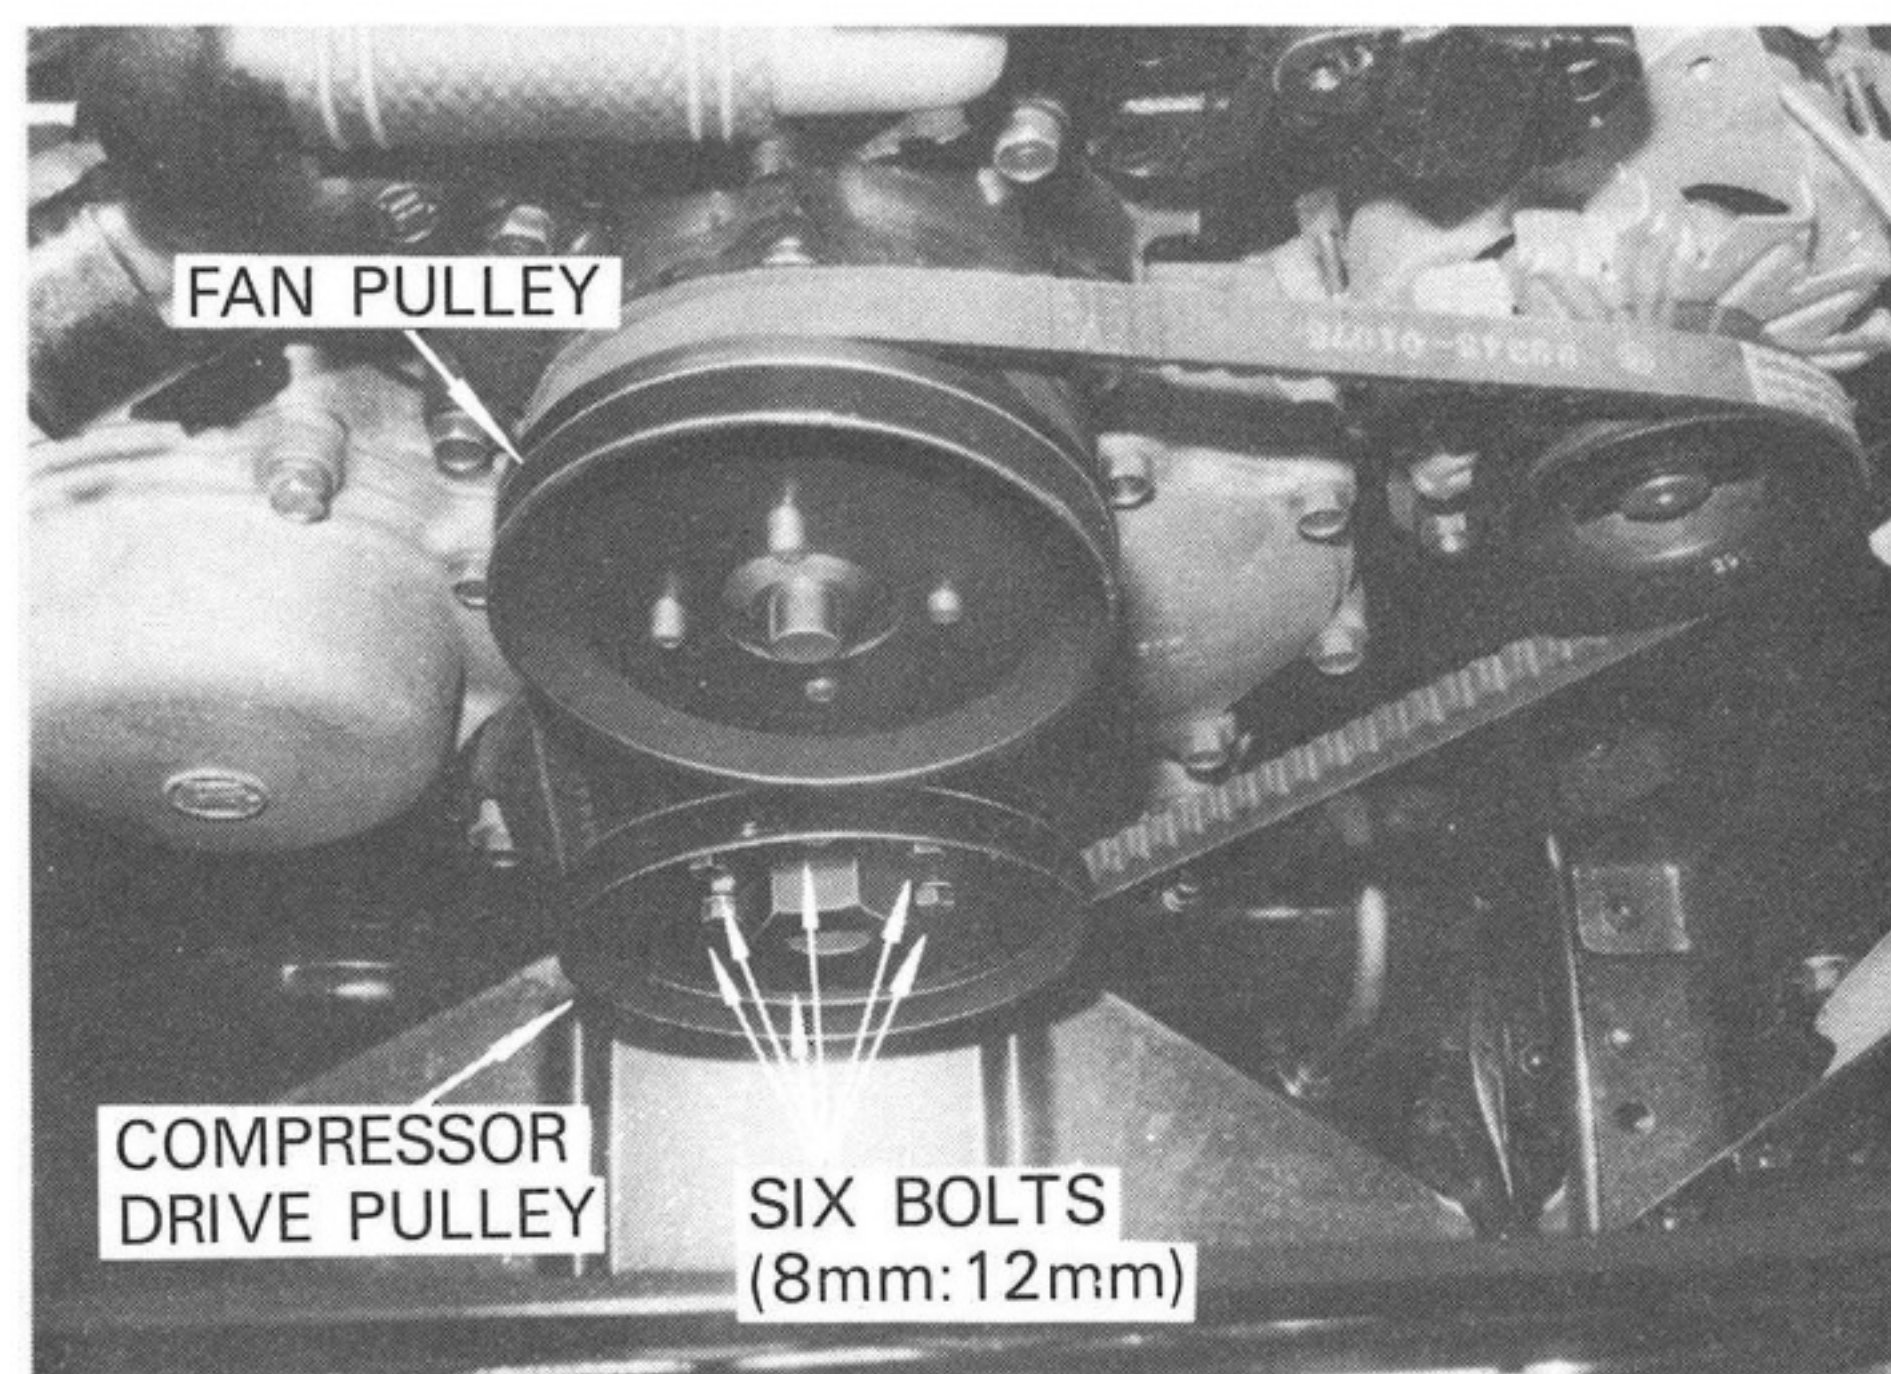

Fig. 2-2
See Fig. 2-2.
- A) Attach the fan pulley onto the original pulley. See Fig. 2-2.